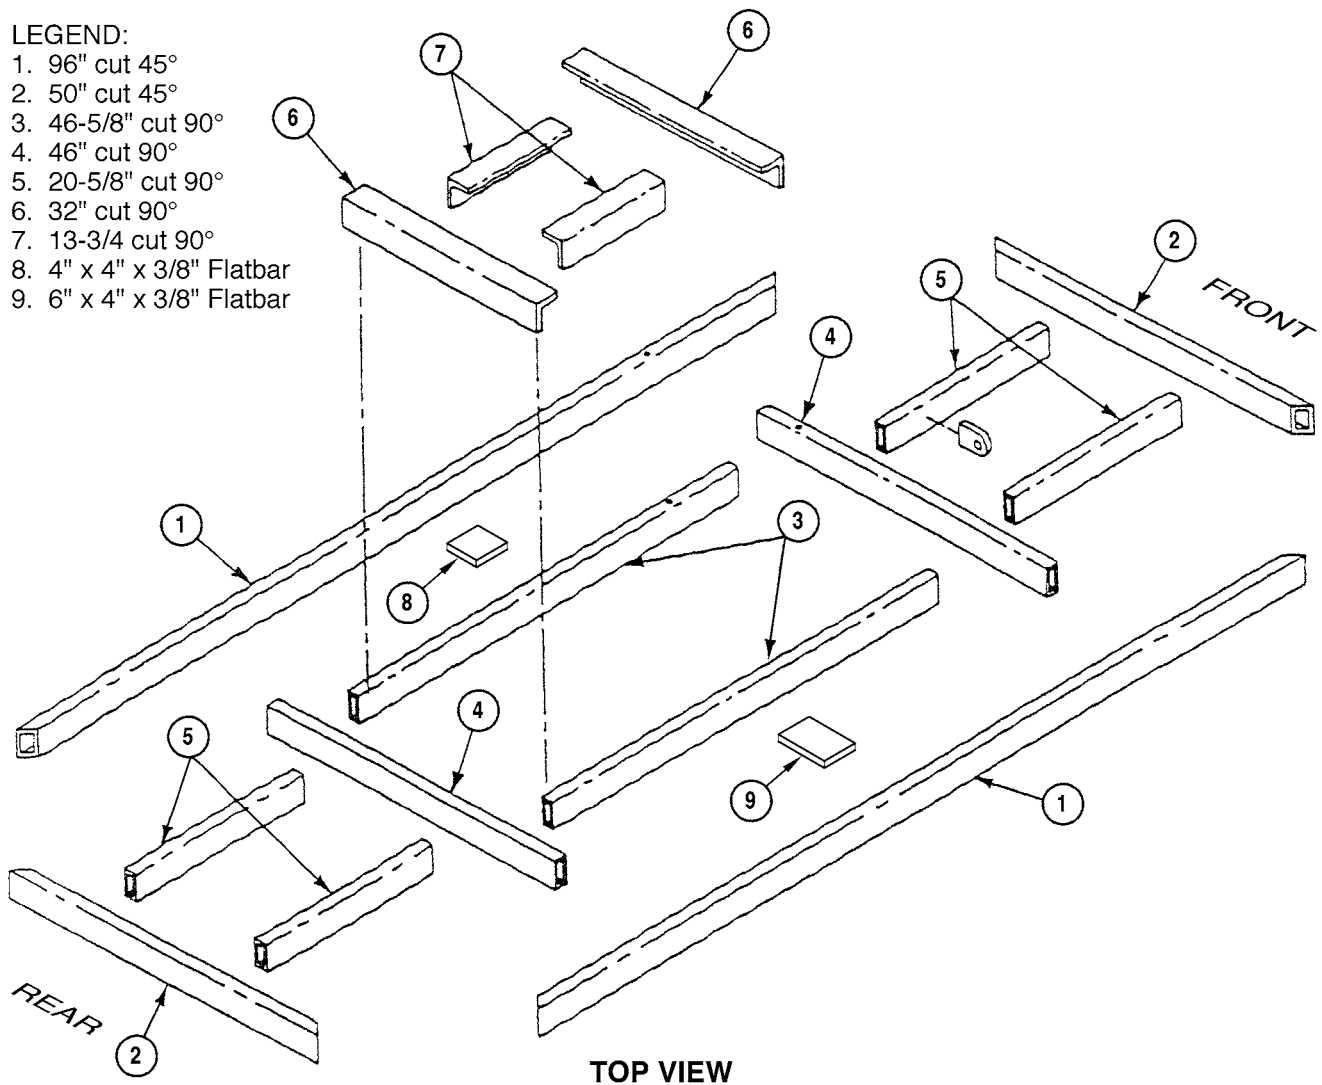
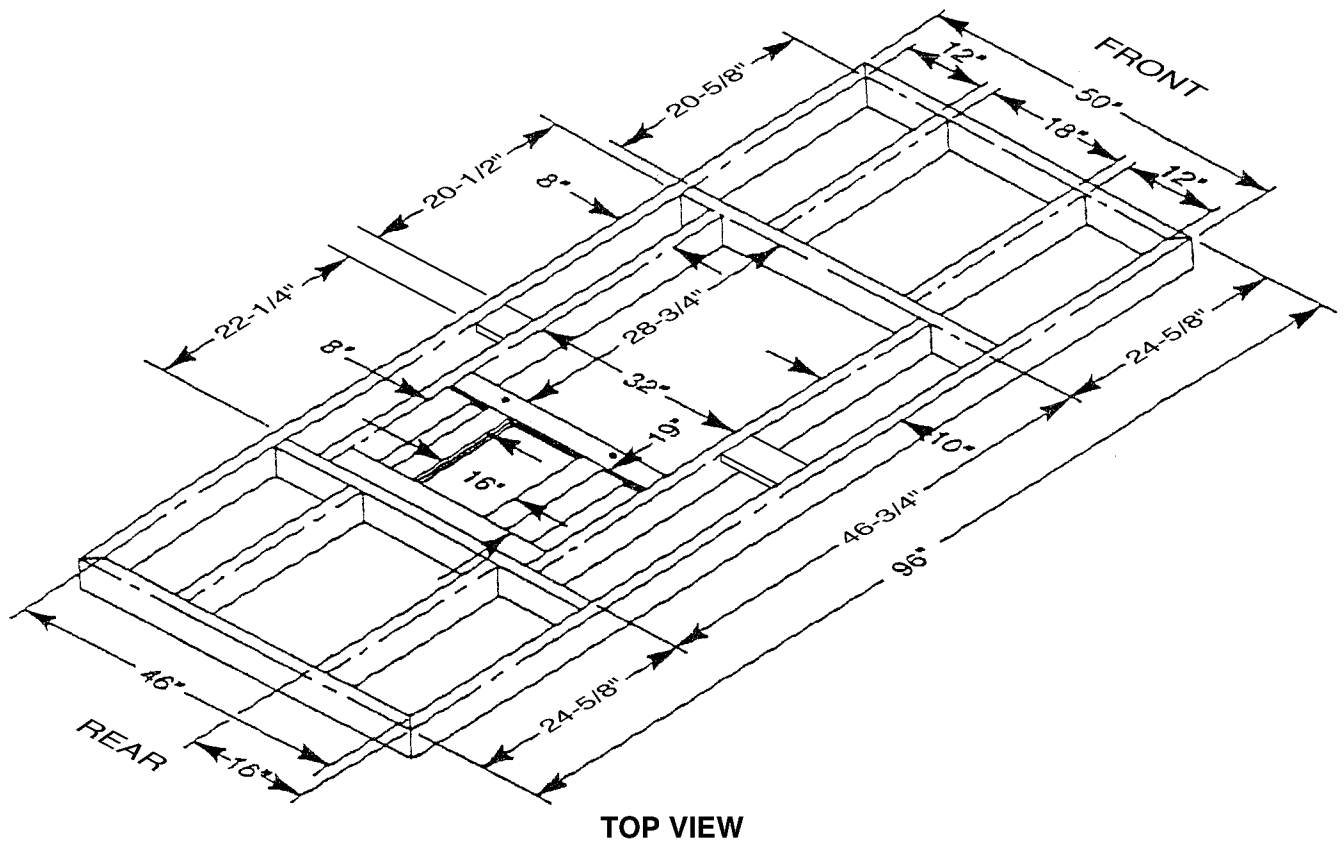

Figure 2-1. Frame Assembly Layout—Top View
Figure 2-2. Frame Assembly Dimensions—Top View
1. Cut ends of rectangular steel tubes (1, 2) at 45° angle, final length to be 96 inches (243.8 cm) and 50 inches (127.0 cm) respectively. Lay steel tubes on flat level surface in accordance with Figure 2-1. Weld ends together. (See TM 9-237.)
2. Lay rectangular steel tubes (3, 4, and 5) inside box frame in accordance with art in Figure 2-1 and dimensions in Figure 2-2. Tack weld all steel tubes together.
3. Align steel angles (6 and 7) within welded framework in accordance with art in Figure 2-1 and dimensions in Figure 2-2. Tack weld all joints.